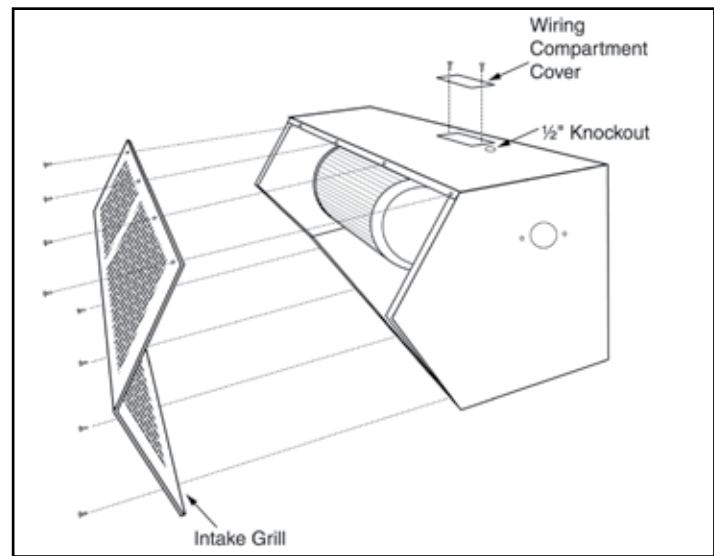

FIGURE 6 - Junction Box
- C. Remove the wiring compartment cover located on the top of the unit. **See FIGURE 6**
- B. Remove the intake grille by removing all phillips head screws around edge. **See FIGURE 6.**
2. Remove the intake grille by removing all phillips head screws around edge. **See FIGURE 6.**